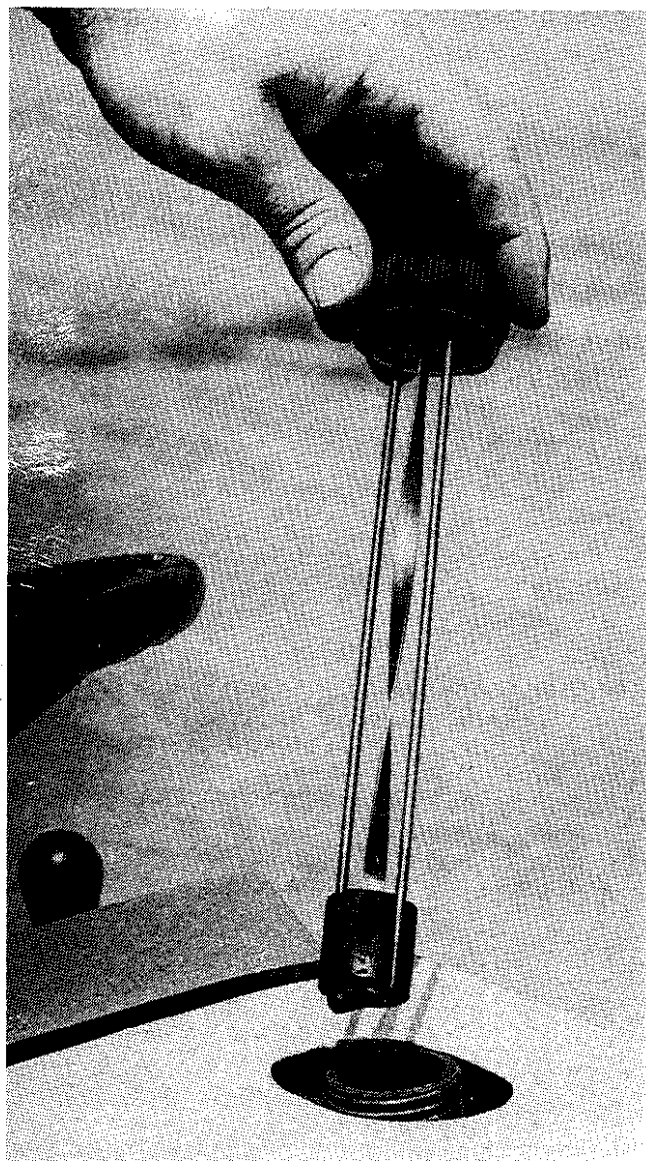

FIGURE 12
5. Fuel Supply: Fill fuel tank completely with clean, fresh, leaded or non-leaded "Regular" grade automotive gasoline. (DO NOT MIX OIL WITH GASOLINE) Store gasoline in small quantities as prolonged storage produces gum. See page 9 item 6 of this manual. (Figure 12).